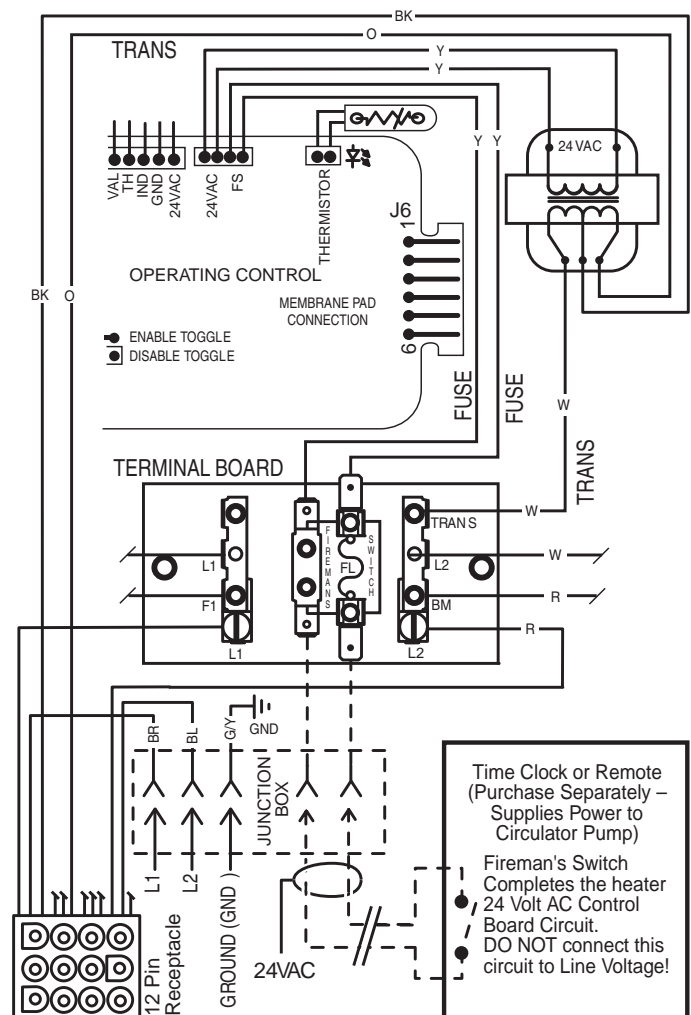

Figure 24.
- Connect wires between the Fireman's Switch terminals on the heater and the relay. Connect wires from the controller or timer to the Fireman's Switch. Controller, timer or relay should be sized to handle 24VAC at 0.5 Amp (because it will be completing the 24VAC control board circuit on the heater as shown in Figure 24). **DO NOT** apply line voltage to the Fireman's Switch terminals. Use 18 gauge wire with a minimum 1.2 mm (3/64 in.) thick insulation rated for a temperature rise of at least 105° C.